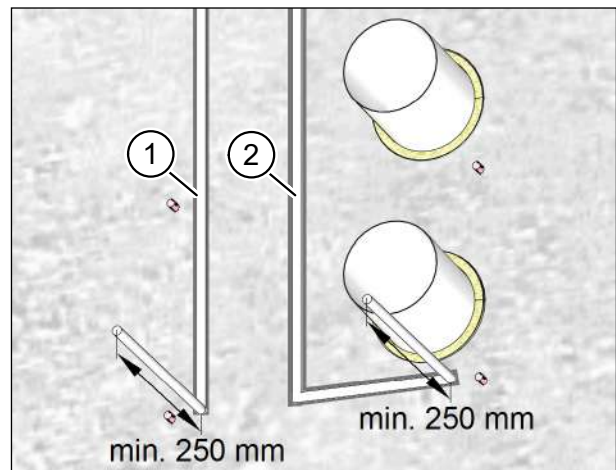

Fig. 25: Running the connecting cables
- ▶ Run the mains cable (item 1 in Fig. 25) and the control cable (if used) (item 2 in Fig. 25). The cables should extend roughly 250 mm beyond the wall.